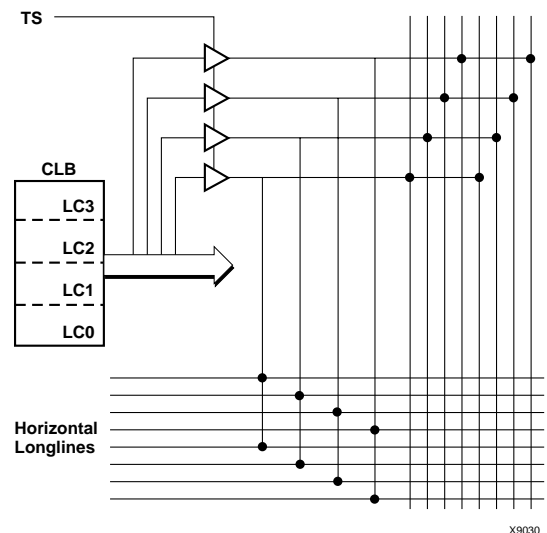

Figure 9: XC5200 3-State Buffers
GR can be driven from any user-programmable pin as a global reset input. To use this global net, place an input pad and input buffer in the schematic or HDL code, driving the GR pin of the STARTUP symbol. (See Figure 9.) A specific pin location can be assigned to this input using a LOC attribute or property, just as with any other user-programmable pad. An inverter can optionally be inserted after the input buffer to invert the sense of the Global Reset signal. Alternatively, GR can be driven from any internal node.
The XC5200 family has four dedicated Three-State Buffers (TBUFs, or BUFTs in the schematic library) per CLB (see Figure 9). The four buffers are individually configurable through four configuration bits to operate as simple non-inverting buffers or in 3-state mode. When in 3-state mode the CLB output enable (TS) control signal drives the enable to all four buffers. Each TBUF can drive up to two horizontal and/or two vertical Longlines. These 3-state buffers can be used to implement multiplexed or bidirectional buses on the horizontal or vertical longlines, saving logic resources.